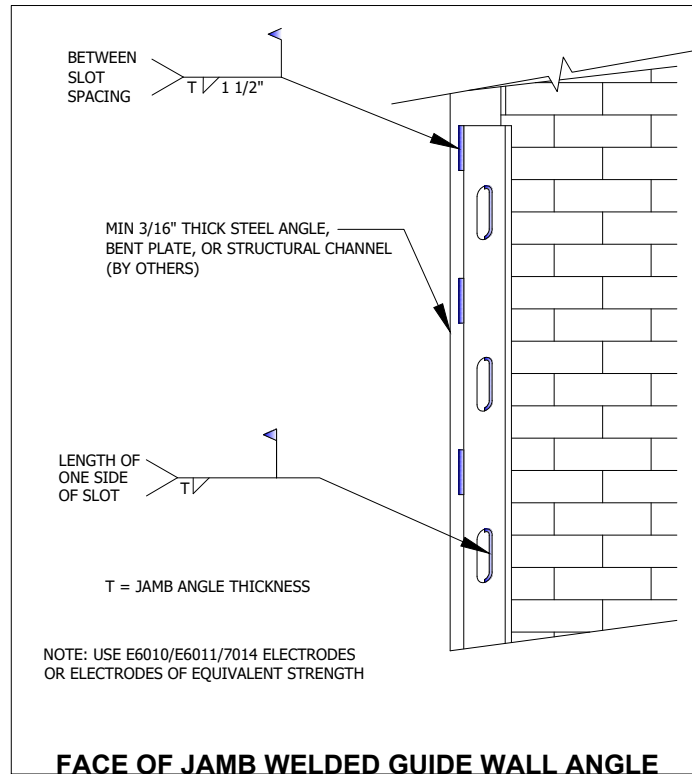

FIGURE 14
- a. Create weldments only within the specifications shown in Figure 14 (APPX-C)